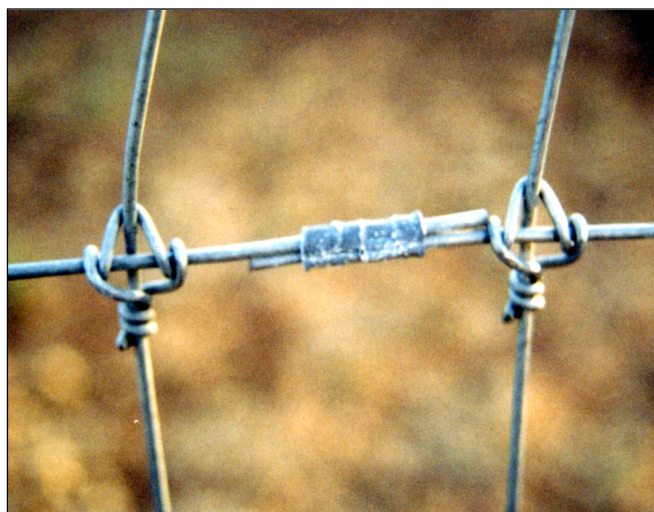

Figure 4 Splicing Woven Wire
- Woven wire can also be joined with wrap splices by leaving four to six inches of line wire beyond the end stay. Lay together the end stay wires of each of the two sections to be spliced, then wrap the free ends tightly around the line wire and wrap the ends back onto themselves as in Figure 4.